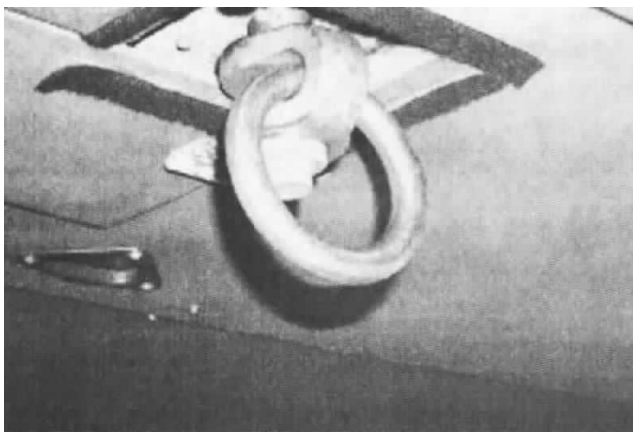

Figure 5-6. H-60 Overhead Red Tie Down Ring.
- Attach safety line to overhead red tie down ring (see fig. 5-6) using a carabiner and double clevis with quick-release pin.